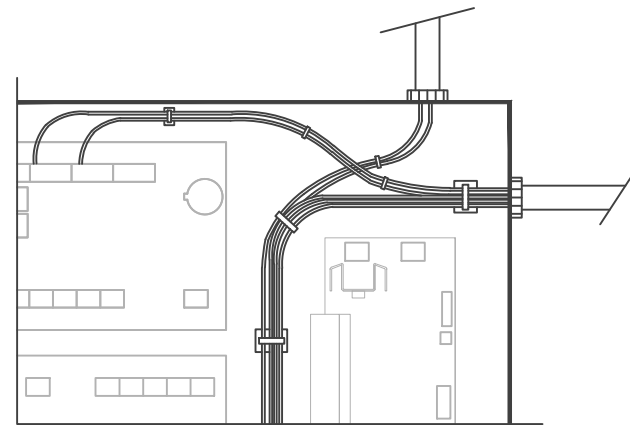

FIGURE 2
3. (SEE FIGURE 2) BUNDLE, CABLE TIE, AND DRESS CABLES TO TERMINAL POINTS IN A NEAT AND CLEAN MANNER WITH NO EXCESS AND WITHOUT EXCEEDING MANUFACTURER'S LIMITATIONS ON BENDING RADII.